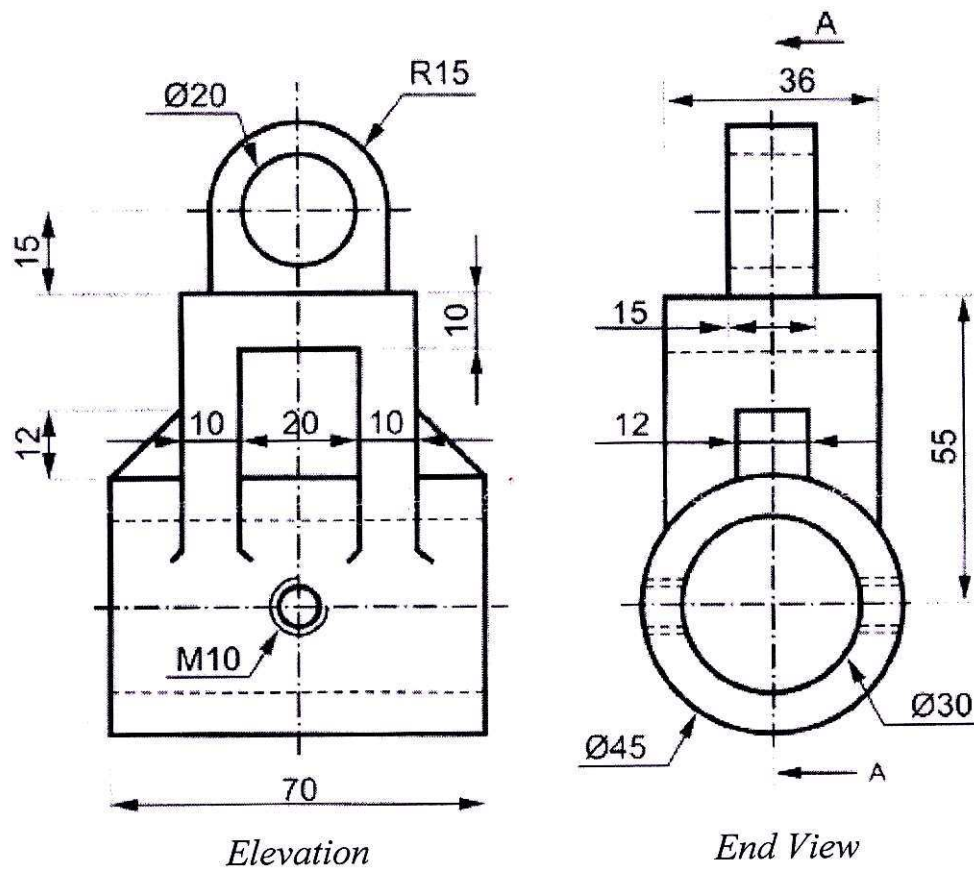

Fig. 8
10. The following Fig. 8 shows elevation and End View of an object. Using same method of projection, draw the following views :